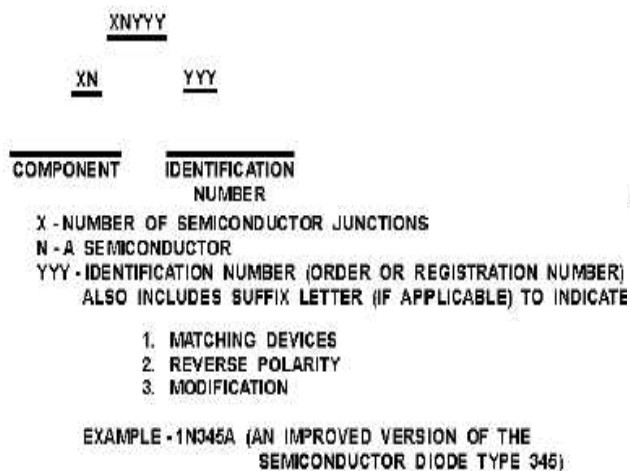

Fig. 4: Identification of Diode
There are many types of diodes varying in size from the size of a pinhead (used in subminiature circuitry) to large 250-ampere diodes (used in high-power circuits). Because there are so many different types of diodes, some system of identification is needed to distinguish one diode from another. This is accomplished with the semiconductor identification system shown in Fig. 4. This system is not only used for diodes but transistors and many other special semiconductor devices as well. As illustrated in this figure, the system uses numbers and letters to identify different types of semiconductor devices. The first number in the system indicates the number of junctions in the semiconductor device and is a number, one less than the number of active elements. Thus 1 designates a diode; 2 designates a transistor (which may be considered as made up of two diodes); and 3 designates a tetrode (a four-element transistor). The letter "N" following the first number indicates a semiconductor. The 2- or 3-digit number following the letter "N" is a serialized identification number. If needed, this number may contain a suffix letter after the last digit. For example, the suffix letter "M" may be used to describe matching pairs of separate semiconductor devices or the letter "R" may be used to indicate reverse polarity. Other letters are used to indicate modified versions of the device which can be substituted for the basic numbered unit. For example, a semiconductor diode designated as type 1N345A signifies a two-element diode (1) of semiconductor material (N) that is an improved version (A) of type 345.